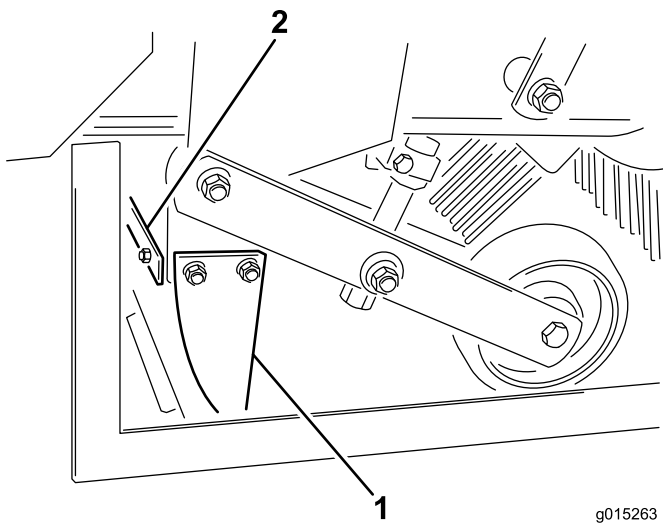

Figure 12
1. Move the flat lever forward to lower the flat (Figure 12).